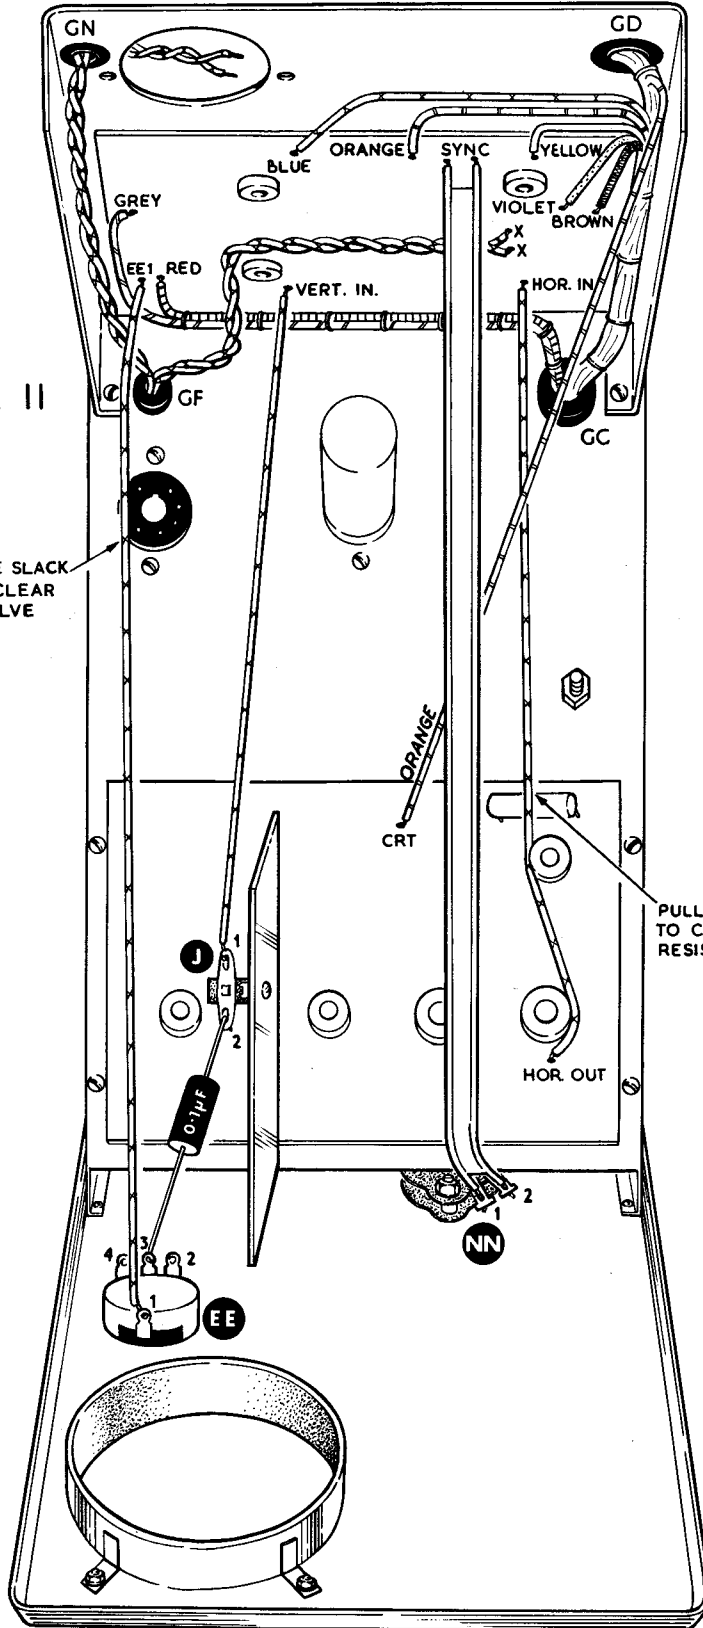

**FIGURE 11**
- (✓) Prepare a length of 300 $\Omega$  transmission line as shown in Figure 11. Twist the strands of each conductor together and lightly tin.